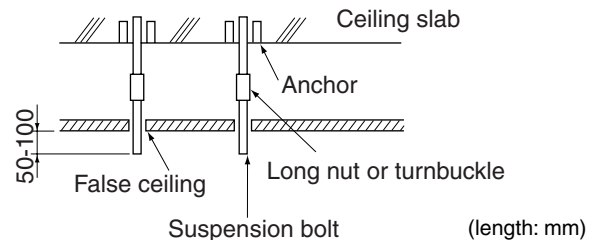

Fig. 9
2. Make holes for suspension bolts, refrigerant and drain piping, and wiring. (Refer to Fig. 9)